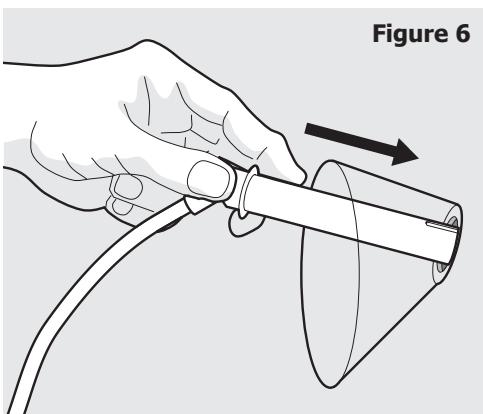

Figure 6
10. Push water inlet tube (11) through small hole where Installation label was (Figure 6). Rotate while inserting tube until flat surface of inlet tube is tight against back of refrigerator.